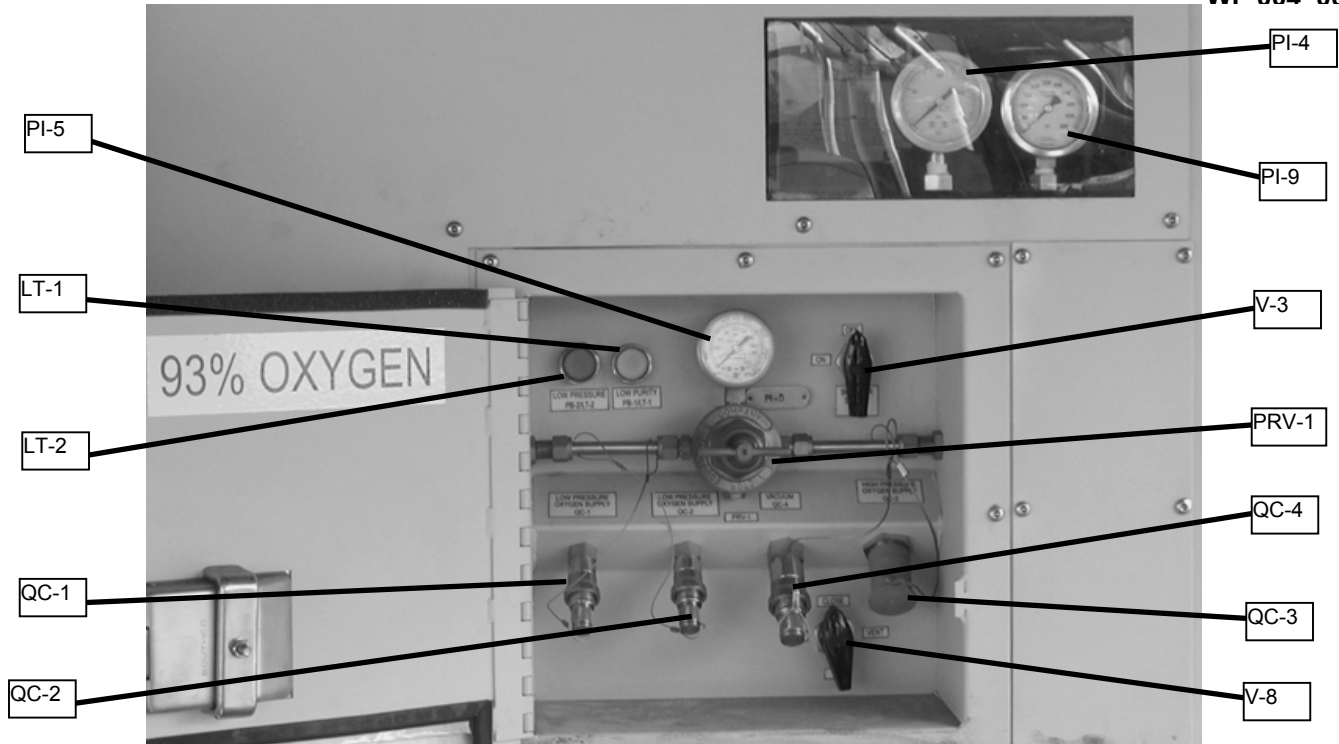

Figure 3. Product Distribution Box.
If the EDOCS-120 is to be connected directly to the hospital distribution system (PODS or SSODS), connect both low pressure oxygen product hoses (H-1, H-2) to the two low pressure oxygen product quick connect fittings (QC-1, QC-2) on the distribution box (see Figure 3).
- c. Check the low pressure alarm and low purity alarm pilot lights by pressing their respective buttons (see Figure 3). The lights should illuminate when the buttons are pushed. Check the low purity override indicator light by depressing the button. It should illuminate. Depress the button again to turn it off.